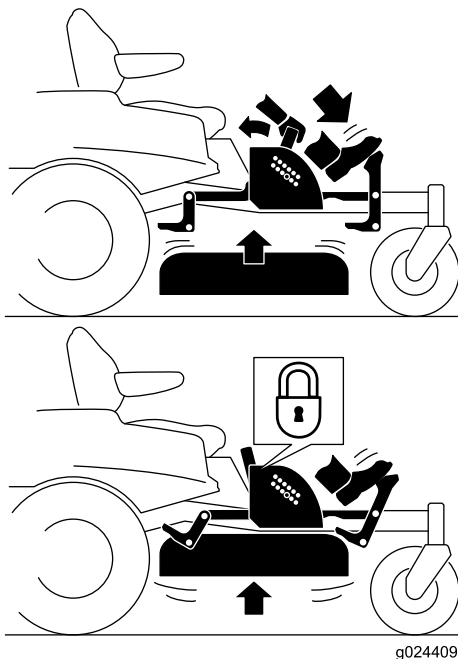

Figure 28
- Press the deck-lift pedal down to raise the deck; continue to press the pedal until the deck locks in the transport position (Figure 28).
- Push on the deck-lift pedal with your foot and pull the transport lock handle rearward to disengage the transport lock (Figure 28).
4. Push on the deck-lift pedal with your foot and pull the handle rearward to disengage the transport lock (Figure 28).